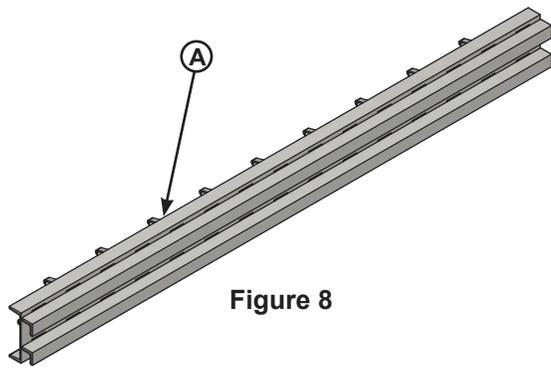
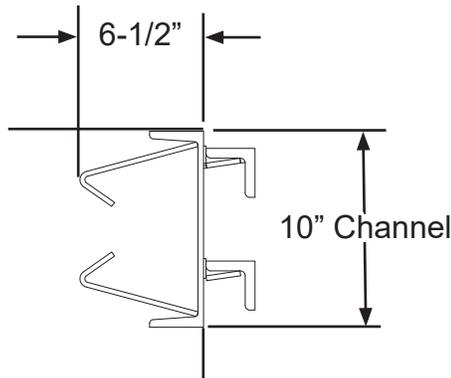
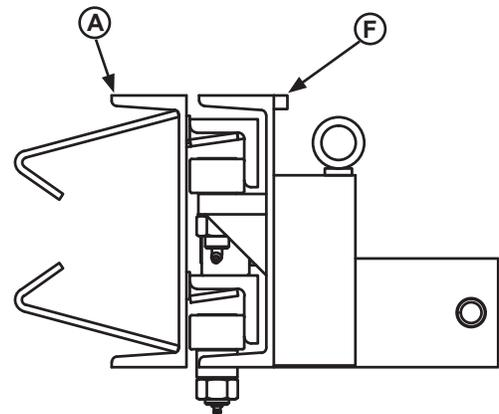

Figure 8
Figure 9
Figure 12
1. Check the roller track (A, Figure 8) for proper installation by concrete contractor according to approved/certified pit drawings. Make sure roller track is level, free from damage and clear of foreign material. See Figure 9.
- b. Remove (B) hoist cylinder pins at carriage.
- c. Remove rear hinge pins (C, platform to carriage). See Figure 12.
4. Make sure the mounting hardware of lifting brackets (D) is snug. The brackets should pivot without binding on the mounting cap screw.
6. Position the the carriage (F) so that it can slide into the roller track (A) from the side. The carriage must be installed slowly and as level as possible to prevent damage to the rollers. See Figure 12 for view of carriage installed into roller track.